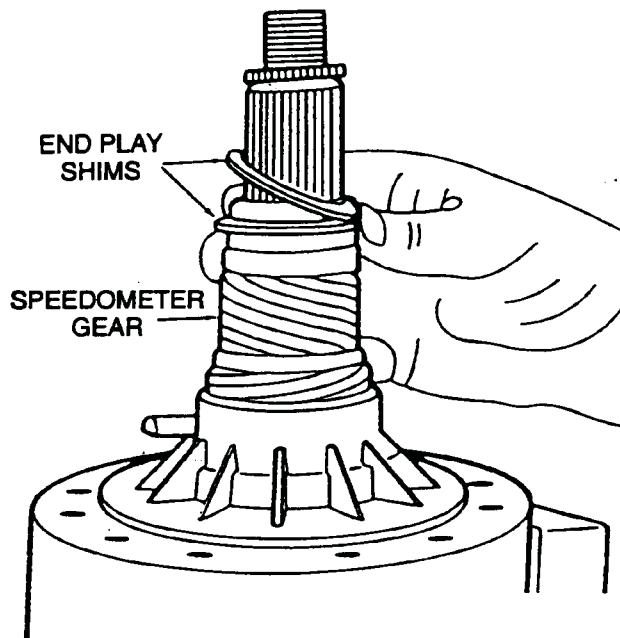

Fig. 4-6 Remove End Play Shims and Speedometer Gear
5. Remove the end play shims (Fig. 4-6).
6. Remove the speedometer drive gear (Fig. 4-6).